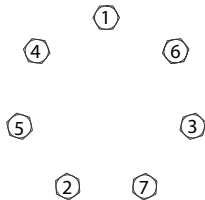

Figure 3: Figure 3
- a) Lower drive link (16) into shaft (23).
9. Install housing seal (2) into groove in housing (10).
- a) Place manifold (17) onto housing (10).
- The side of the manifold with the seven tear drop shapes faces the housing (10).
- b) Place body seals (8) in grooves in both sides of rotor set (18).
- c) Place rotor (18) onto manifold (17) with side of rotor with chamfer in splines facing manifold (17).
10. Install balance plate (19) onto rotor (18) making sure holes for steel balls faces up and that all three balls (20) are seated in the holes.
- a) Install endcover seal (9) into groove in endcover (21) and place endcover onto balance plate (19).
- b) Install seven assembly bolts (22) and pre-torque to 13.6 Nm [10 ft-lb].
- c) Using the bolt torque sequence shown in *Figure 3: Figure 3* on page 11, final torque all bolts to 67.8 [50 ft-lb].